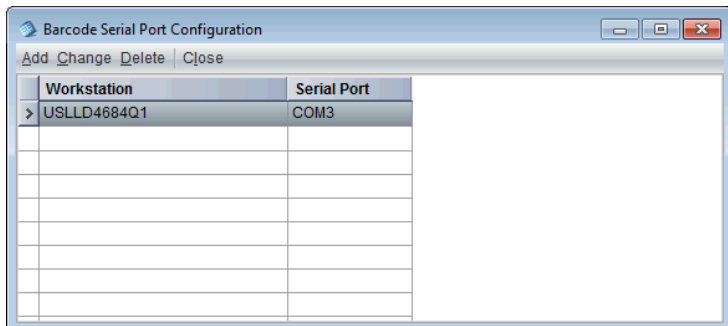

Figure 25: Updated configuration
8. The system updates the MOSAIQ® configuration (see Figure 25).